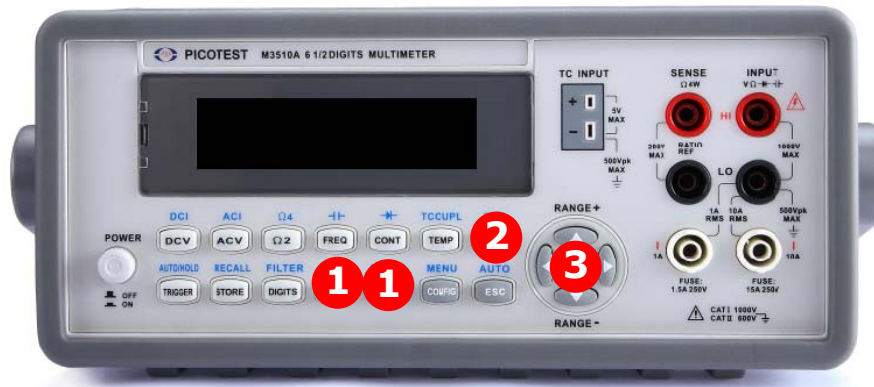

Figure 4-20
1. Press SHIFT + NULL to enter MATH submenu as shown in **Figure 4-20**.